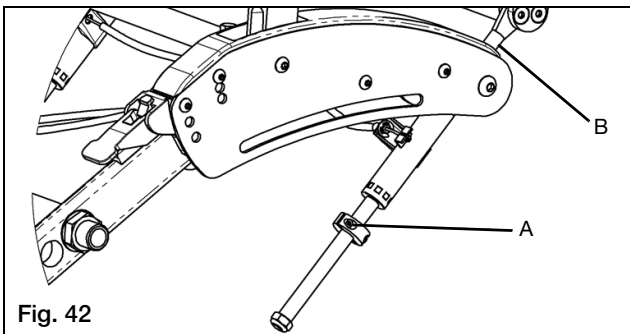

Fig. 42
- Remove screws from tilt stops and install onto shaft of mech lock. Reinstall screws, but do not tighten (Fig. 42:A). Repeat for opposite mech lock.
- For limiting forward tilt, tilt stops may be placed above the body of the mech lock (Fig. 42:B). When desired angle is achieved, slide tilt stop against top of mech lock body and tighten.